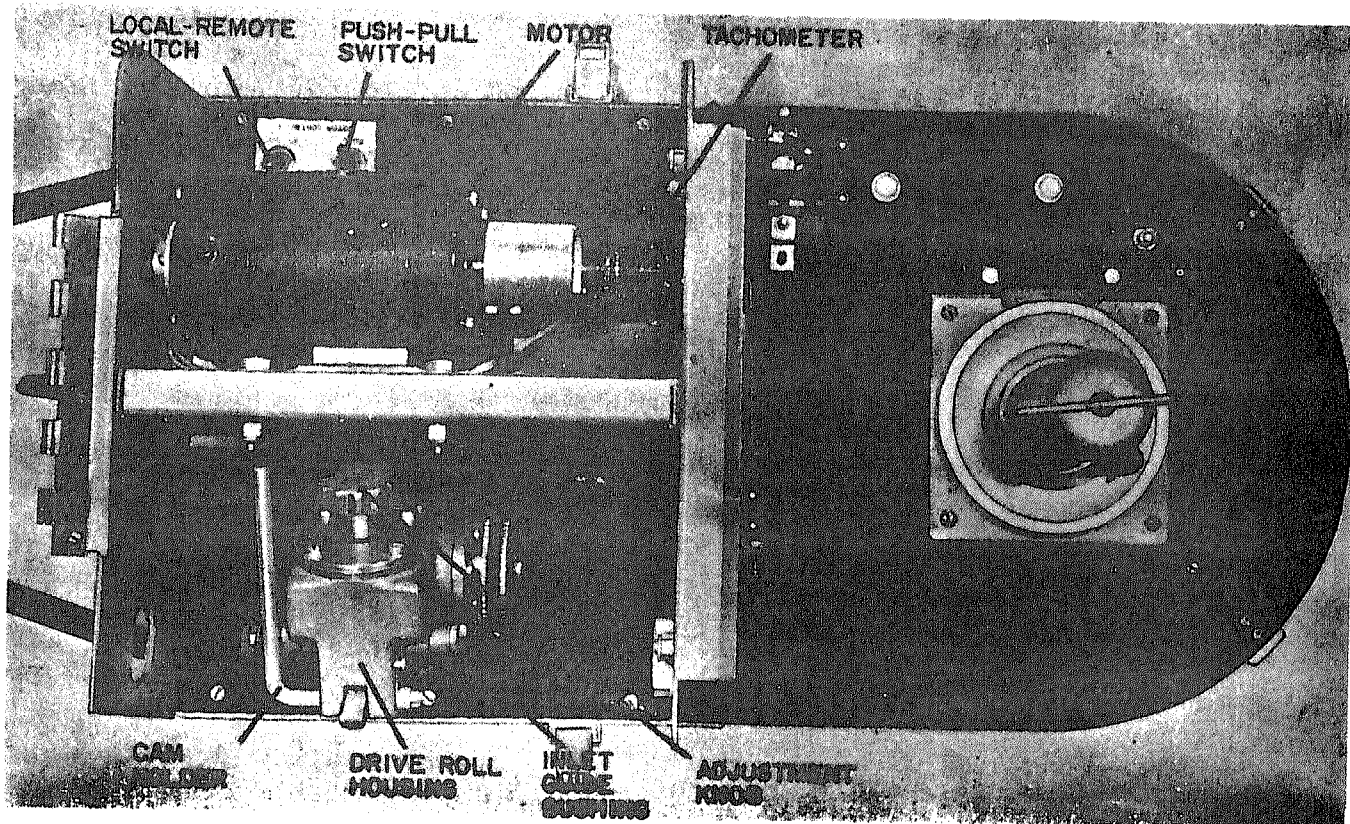

Figure 4. Wire Feeder, Inside View
- c. Hold cam handle (Fig. 4) depressed to raise conical drive roll in upper roll shaft.
- e. Insert inlet guide bushing into drive roll housing (Fig. 4).
- h. Back off adjustment knob on drive roll housing (Fig. 4) a few turns counterclockwise.